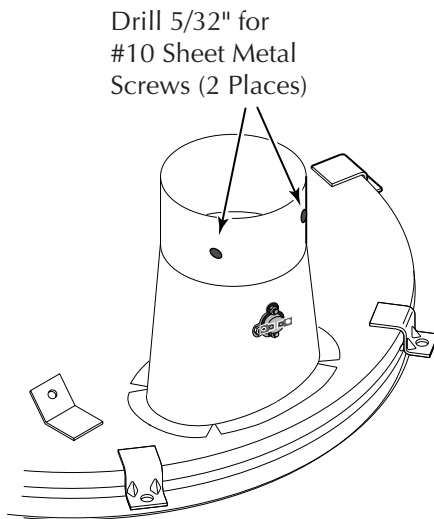

Figure 4-7: Drill Combustion Chamber Flue Collar as shown for Probe and for sheet metal screws for Welded Vent Elbow Assembly.
12. Before applying any adhesive to the Metal Elbow or the Combustion Chamber Flue Collar, set the Elbow on the Flue Collar with the Elbow's detent mark aligned with the centerline of the Stack Flue Switch. Drill two 5/32" holes into the Combustion Chamber Flue Collar through the pre-drilled holes on opposite sides of the Elbow (Figure 4-7). These holes will take #10 sheet metal screws to mechanically lock the Elbow to the Combustion Chamber Flue Collar. Don't install the screws yet.
17. Install the Elbow; align the Elbow and push straight down on it; Compress the Combustion Chamber Flue Collar until the Elbow is completely bottomed out. The bottom of the Elbow should be 4-3/8" above the Flue Collar flange. The detent mark on the Elbow must align with the centerline of the Stack Flue Switch and the holes must align with the 5/32" holes drilled in the Flue Collar in Step 12 (see Figure 4-7).